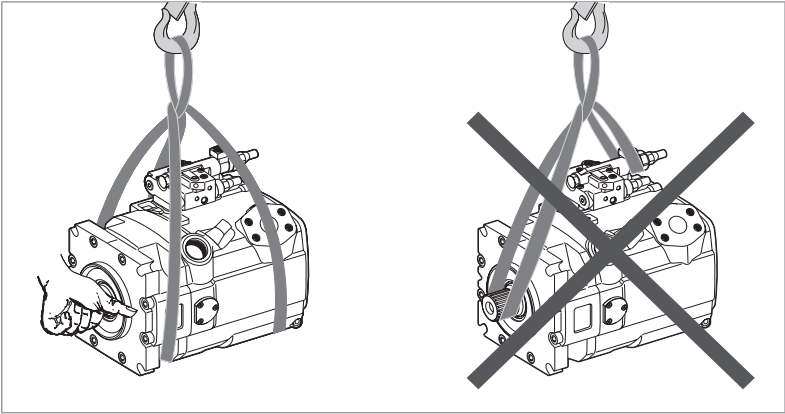

Fig. 6: Transport with lifting strap
- Place the lifting strap around the axial piston unit in such a way that it does not pass over assembled parts (e.g. valves, piping) and that the axial piston unit is not suspended from assembled parts (see Fig. 6).